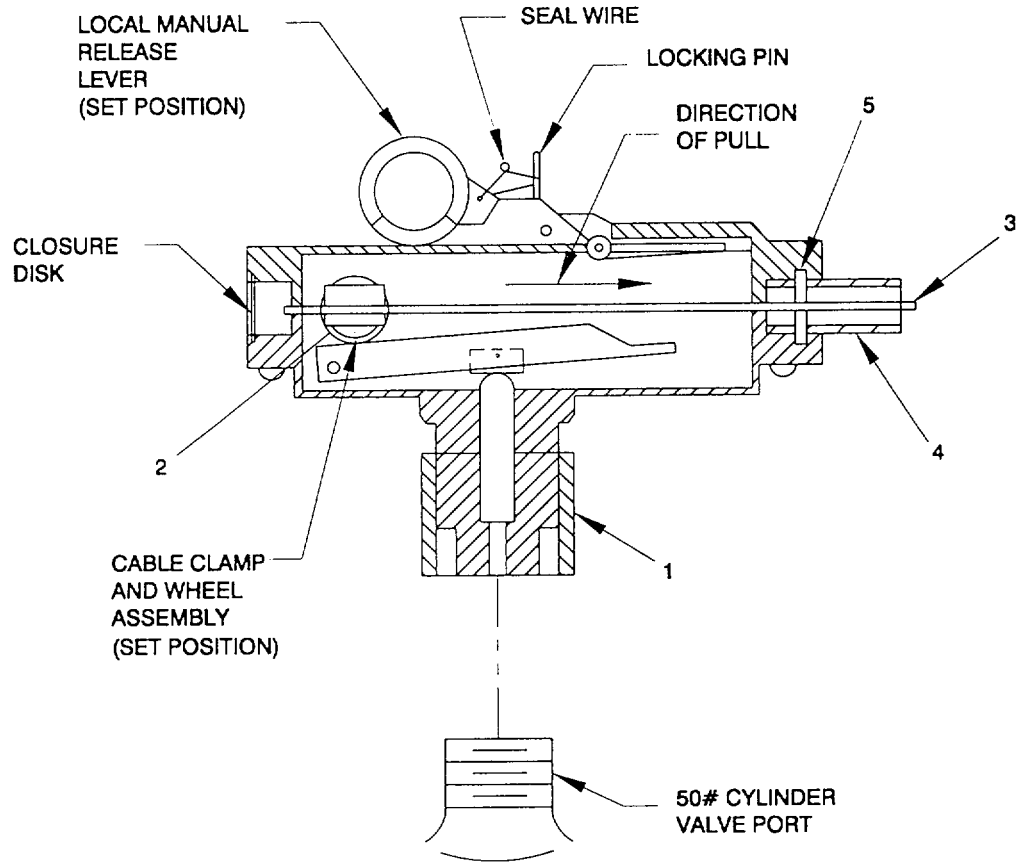

Figure 2-33. Cable Control Head, Fire Suppression System, Remove/Install
a. Remove. (figure 2-33)
- (1) Loosen swivel nut (1) on control head and remove from cylinder valve port.
- (2) Remove cover from control head, loosen setscrews on wheel (2) and free cable (3) from control head.
- (3) Separate control head from cable pipe (4), remove pipe locknut (5) and discard.
b. Install. (figure 2-33)
- (1) Remove cover from replacement control head, take out wheel assembly, cable pipe locknut and closure disc.
- (2) Make sure plunger is below surface of control head body. Position control head at valve control port with arrow pointing in direction of pull.
- (3) Assemble cable pipe locknut (5) to cable pipe (4) and place cable pipe in position to control head body.
- (4) Slide wheel assembly (2) on control cable to proper SET position. Tighten setscrews securely. Make sure wheel assembly is at start of stroke.
- (5) If a new cable (3) has been installed, cut off excess control cable close to wheel assembly.
- (6) Insert closure disc (6) and replace cover on control head. Control head is now armed.